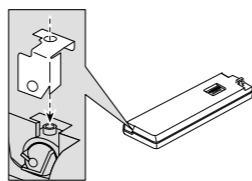

Fig. 11
**1. Attach the holder to the front panel. (Fig. 11)**